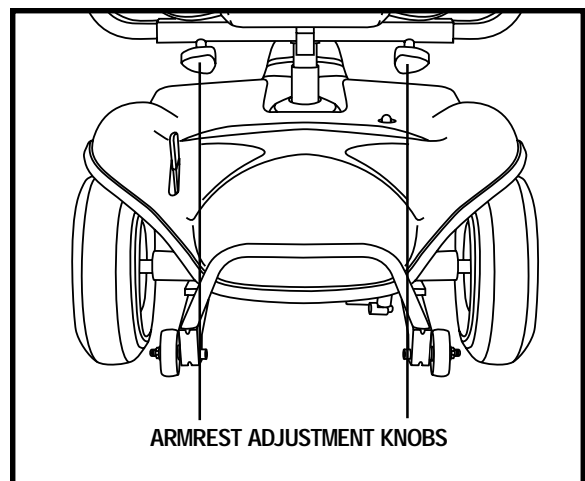

Figure 12. Armrest Width Adjustment
1. Loosen the armrest adjustment knobs. **See figure 12.**